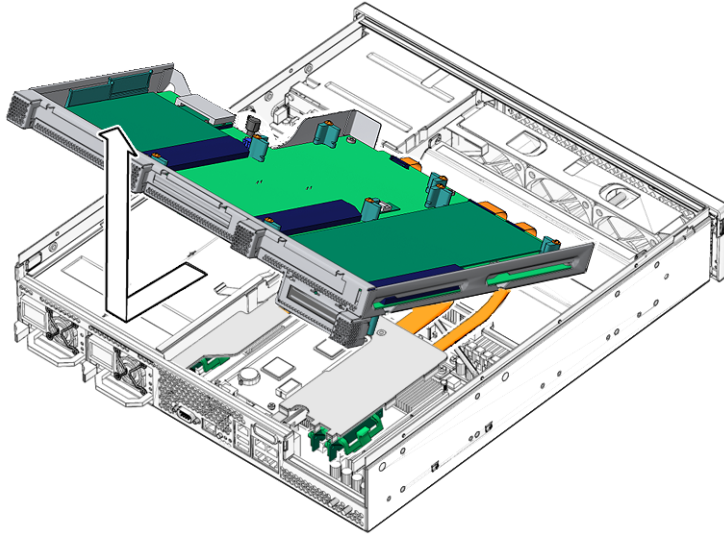

FIGURE 2-5 Lifting the PCI Tray
2. Slide the PCI tray back about 1 inch and lift up on the back edge.(FIGURE 2-5).